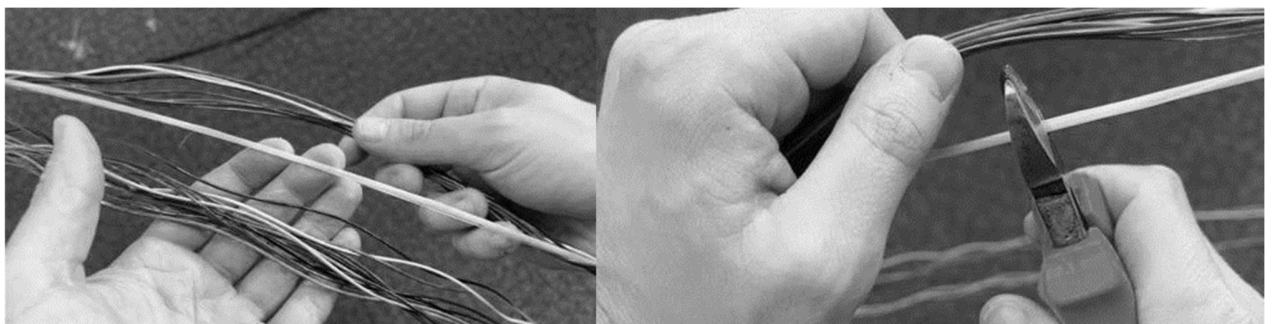

Figure 28 - Unwrap the 6 buffer tubes from the CSM at the reversal point.
5.15 Unwrap the 6 buffer tubes of the cable whilst splitting the central strength member in the middle i.e. the reversal point (Figure 28).